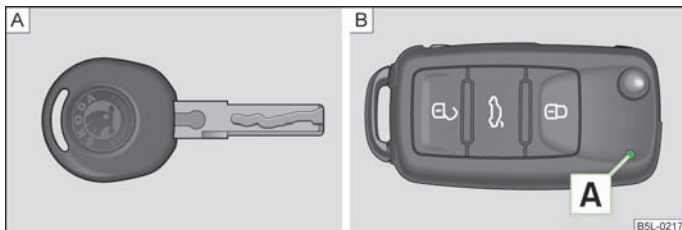
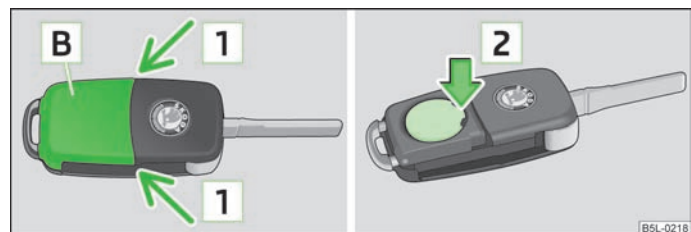

Fig. 8 Key without remote control/key with remote control (remote control key)
Fig. 9 Remote control key - remove cover/remove battery
Two keys are provided with the vehicle. Depending on the equipment, your vehicle can be equipped with keys without radio remote control » Fig. 8 - [A] or with radio remote control » Fig. 8 - [B].
Each remote control key contains a battery which is housed under the cover [B] » Fig. 9. If the battery is discharged, the red warning light [A] does not flash after you press a button on the remote control key » Fig. 8. We recommend that you ask a ŠKODA Service Partner to replace the key battery. However, if you would like to replace the discharged battery yourself proceed as follows.
- Press off the battery cover with your thumb or using a flat screwdriver in the region of arrows [1] » Fig. 9.